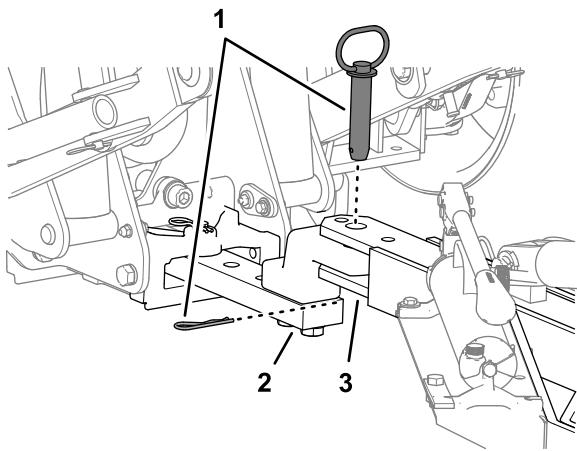

Figure 13
7. Align the tongue of the aerator to the draw bar of the traction unit and use the hitch hardware of the vehicle to secure the aerator (Figure 13).